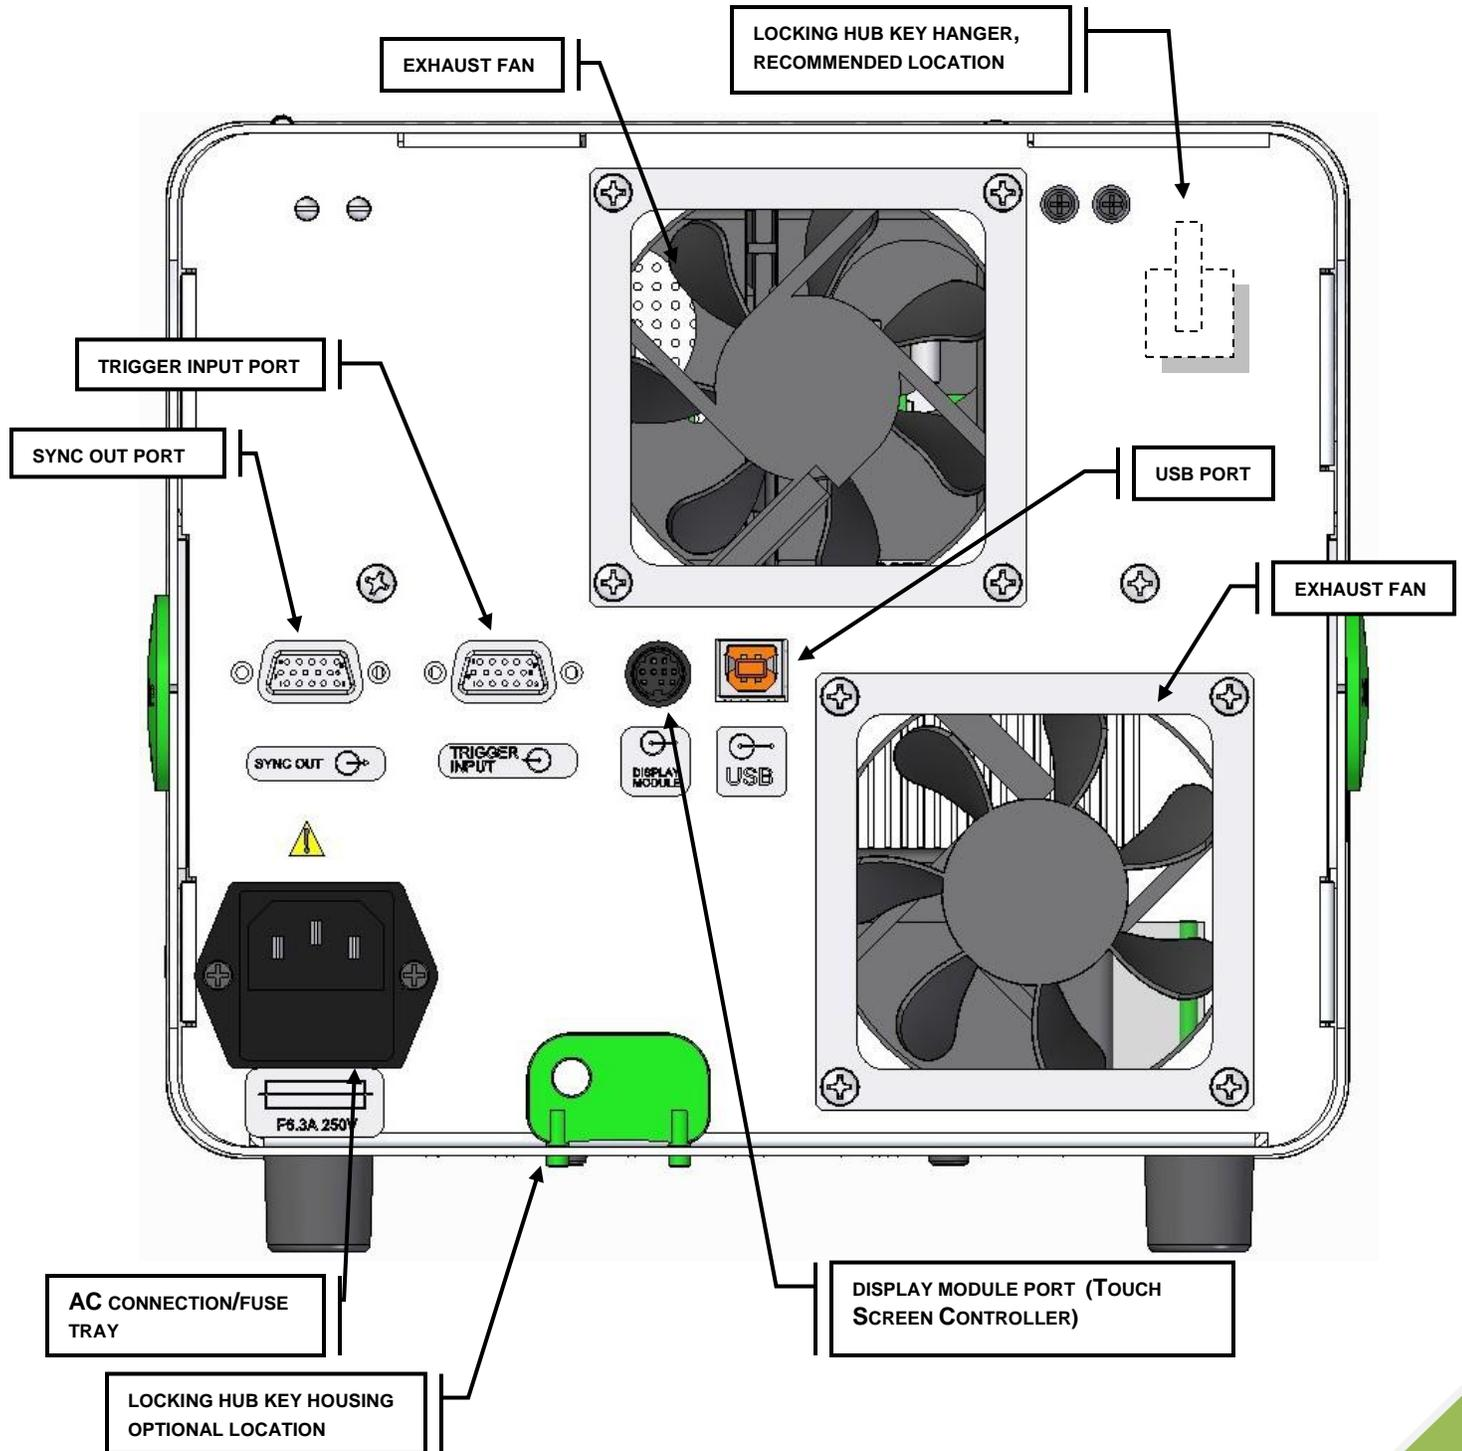

Figure 2 XLED1 Back Panel Image
Should the **X-Cite XLED1 System** be used in a manner not specified by Lumen Dynamics, the protection provided by the equipment may be impaired. Do not attempt to connect the Touch Screen Controller to any type of electrical equipment other than the XLED1 main system as indicated in Figure 2 of this manual.
Locking Hub Key Hanger (refer to Figure 2 for install location).....	<input type="checkbox"/>
- 4.1.1 Lumen Dynamics recommends installing the locking hub key hanger. Bend the flexible tang into a hook shape, peel off the protective backing and affix to the recommended location shown on the rear panel in Figure 2.
- 4.1.3 If purchased, connect the optional Touch Screen Controller to the display module connection provided at the rear of the XLED1 panel. Refer to Figure 2.
- 4.1.4 If Triggering is required, connect the 15pin HD-DB15 trigger I/O breakout cables to the trigger input and sync output connections located on the back XLED1 panel, refer to Figure 2.